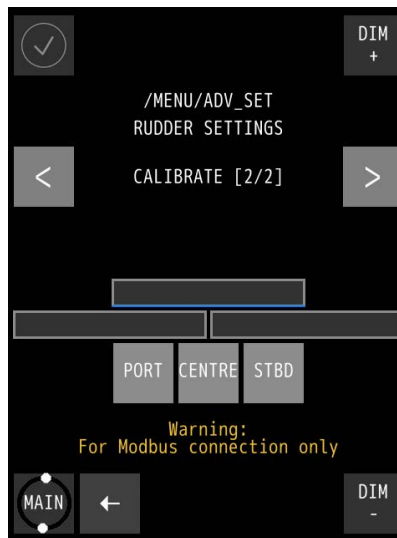

Figure 51: RUDDER SETTINGS MENU - CALIBRATE [2/2]
4. Touch the < or > button next to CALIBRATE [1/2] to open CALIBRATE [2/2], see *Figure 51: RUDDER SETTINGS MENU - CALIBRATE [2/2]* on page 49.